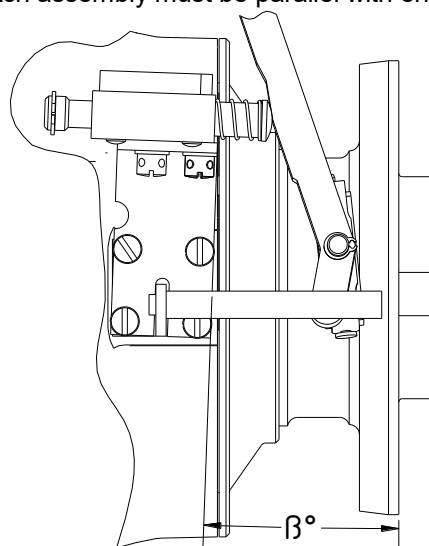
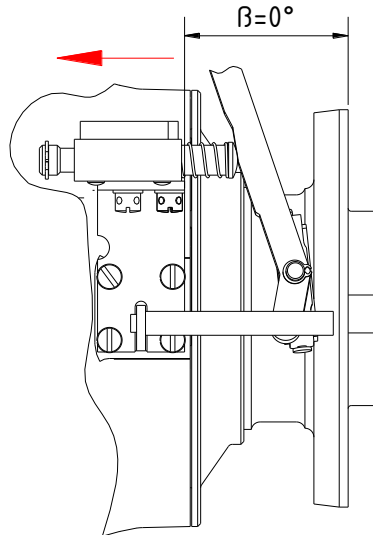

Fig.1 Beta switch assembly mounted with wrong inclination
Fig.2 Beta switch assembly mounted with correct inclination
A. The reason for inability to reach correct setting of the beta switch assembly is wrong inclination of the beta switch assembly. Fig.1 shows beta switch assembly with wrong inclination (see angle β°). Proper mounted beta switch assembly is on Fig.2. Beta switch assembly must be parallel with engine flange (see Fig.2).
B. Correction of wrong mounted beta switch assembly (see part III. paragraph A) is according following procedure: First remove locking wire from four screws which holds beta switch assembly and beta lever support on the engine gearbox. Then slightly loose the screws and adjust the inclination of the beta switch assembly. The bracket of the beta switch assembly must be parallel to the engine flange (move with beta switch assembly in the direction of the arrow = away from propeller) (see Fig.2).